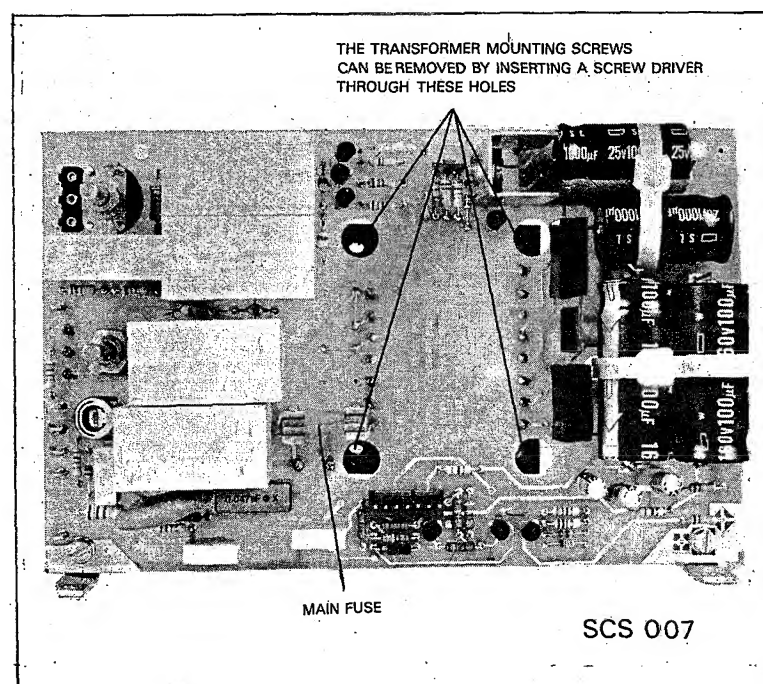

Fig. 6.2 Power supply board
To replace the mains fuse F501 which is located on the power supply board, the top cover should first be removed as described under Sec. 3.2. The mains fuse which is a slow blow fuse, can be removed from its holder, and replaced, if necessary. (See fig. 6.2).
- Remove the four transformer mounting screws. (See fig. 6.2.).